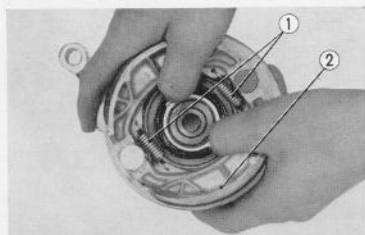

Fig. 4.86 Disassembling brake shoes
7. The brake shoes are held in place by springs ①, therefore, spread the shoes apart to disassemble from the brake panel. (Fig. 4.86)